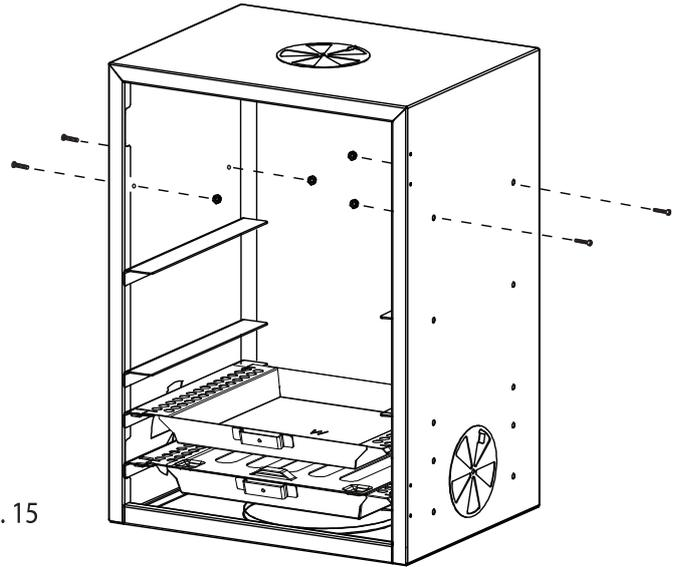

FIG. 15
1. Note that the Sidekick Smoker comes with an extra cooking grid position located in the upper section of the appliance to accommodate many methods of cooking. Simply remove the 4 bolts from the upper section (See Fig 15).